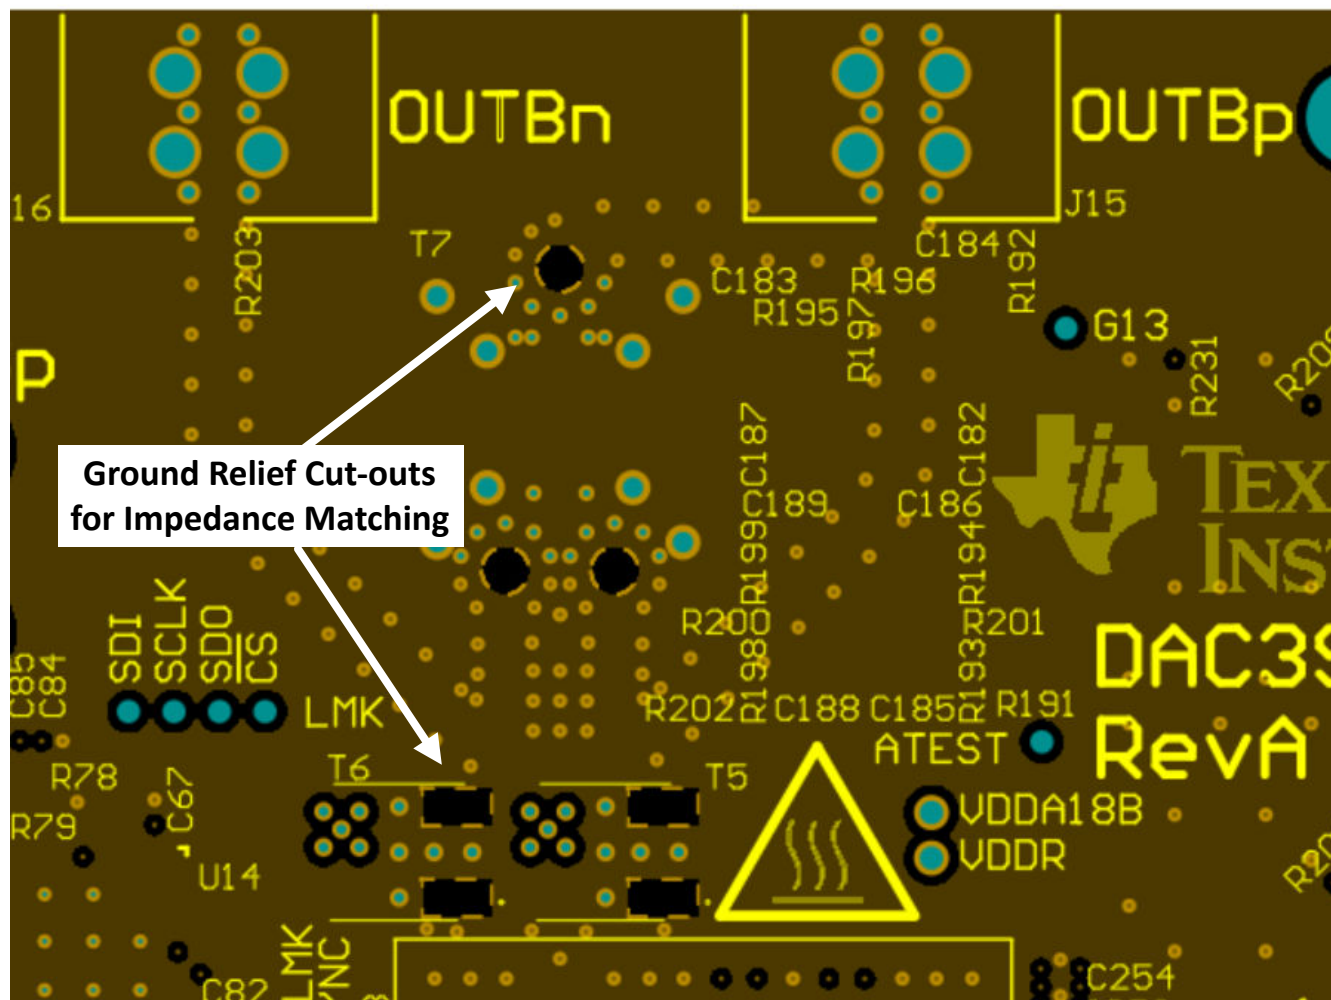
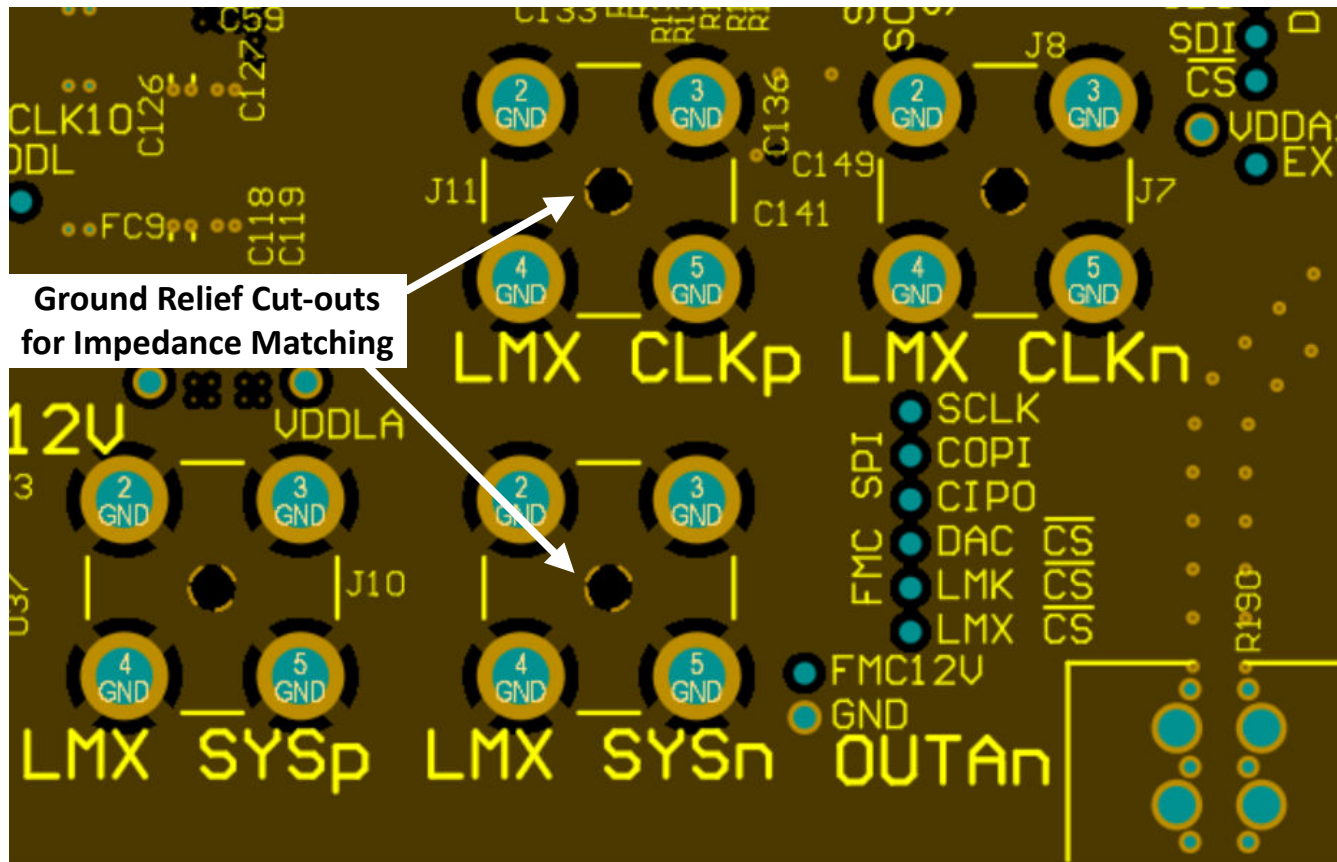

Figure 9-23. Ground Cut-outs Below Balun and Bias-T Pins
Figure 9-24. Ground Cut-out Below SMA Connector Center Pin
5. Incorporate any ground plane cutouts necessary at component landing pads, for example – SMA connectors, baluns, and so on, to avoid impedance discontinuities at these locations. Cut-outs below these landing pads on one or multiple ground planes to achieve a pad size or stackup height that achieves the needed 50Ω, single-ended impedance. See Figure 9-23 and Figure 9-24 as an examples.